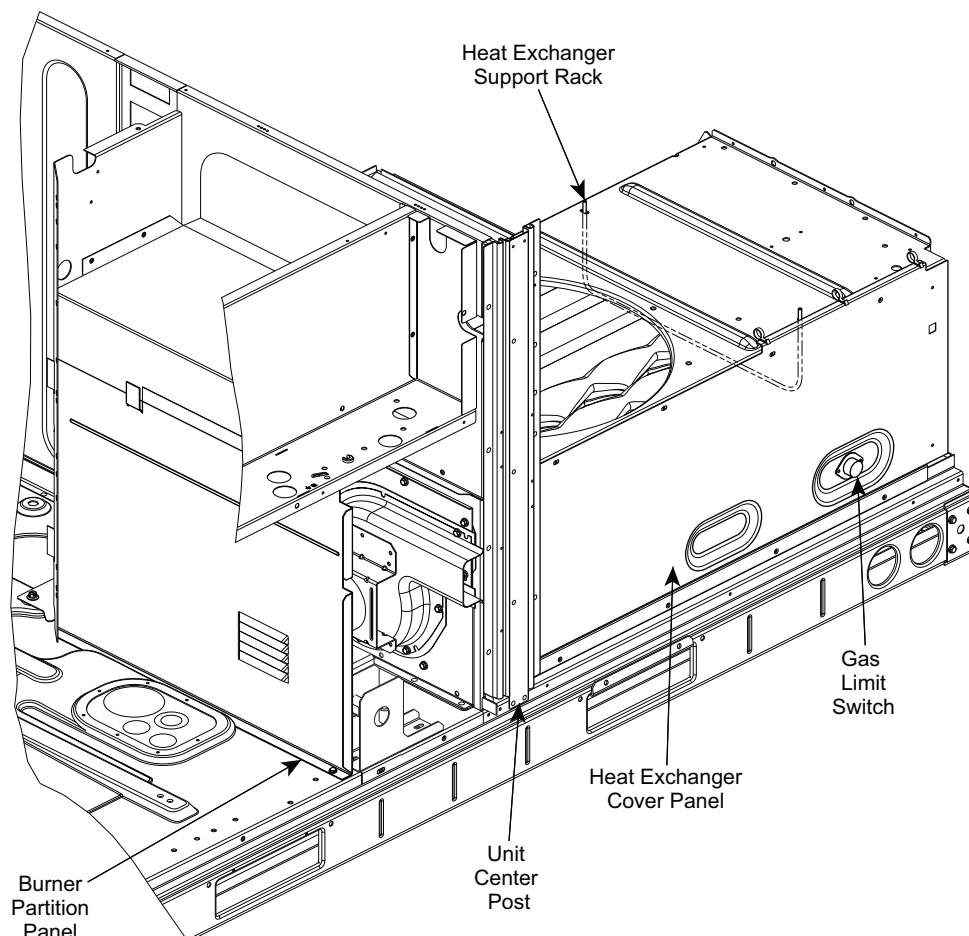

Fig. 50 — Heat Exchanger Access - Internal Panels, Center Post and HX Rack Locations
1. Remove the screw at the base of the burner partition panel (see Fig. 50) and slide out the panel.
5. Remove the screw at the base of the burner partition panel (see Fig. 50) and slide out the panel.
3. Remove the unit center post (see Fig. 50).
Remove the indoor blower access panel. Limit switch is located on the heat exchanger cover panel. See Fig. 50.